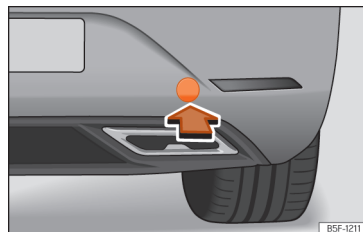

Fig. 213 Rear bumper on right: remove the lid.
The housing of the screw towing eye is on the right side of the rear bumper behind a lid >>> Fig. 213.
- Press the lower side of the lid >>> Fig. 213 to unclip it.